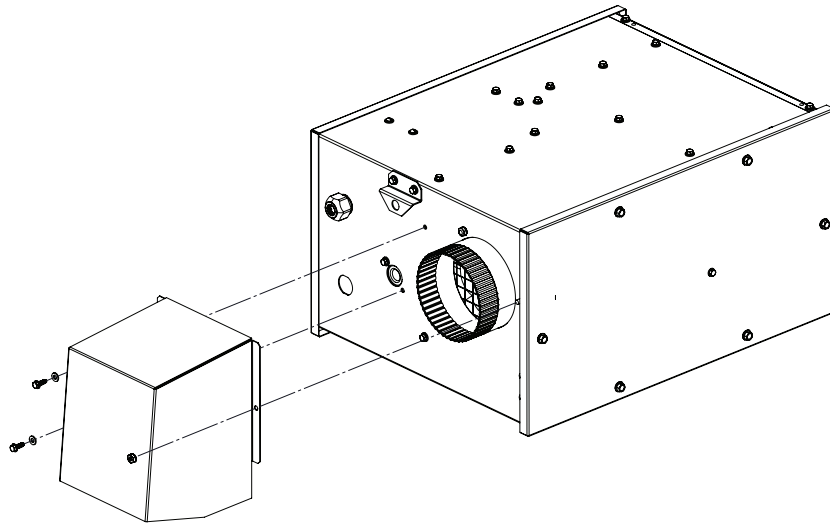

Figure 27. Combustion Air Inlet Hood Installation (Model VZH)
1. Remove and save screws and nut shown in Figure 27.
2. Position combustion air inlet hood over combustion air inlet collar as shown in Figure 27) and align flange holes.